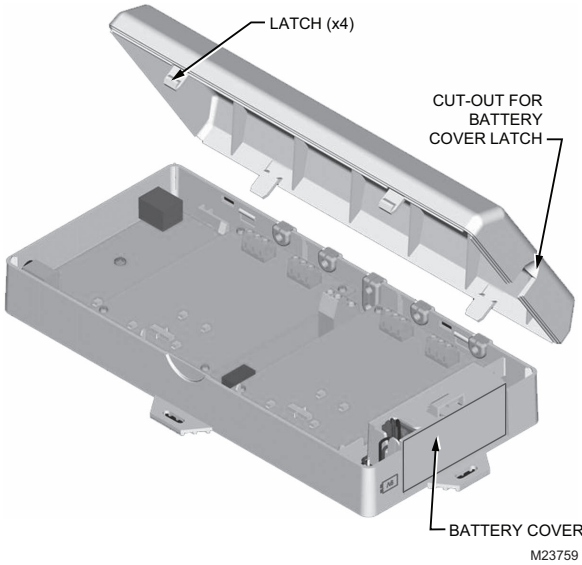

Fig. 18. Replacing the Top Cover.
2. Gently press the cover plate into position until all four latches engage. See Fig. 18.